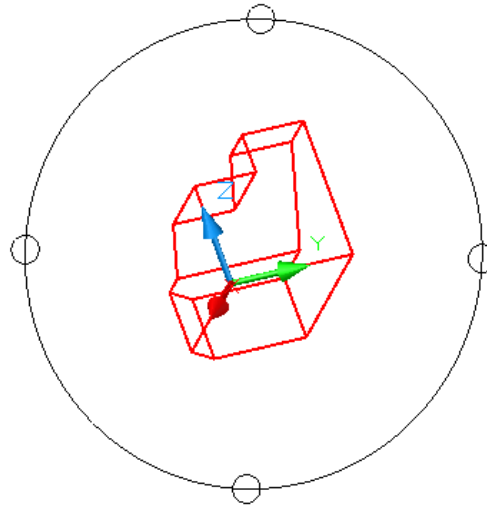

Figure Step 14
Step 14 Using 3DFORBIT, orbit the model to appear similar to the figure. It does not have to match exactly. (Figure Step 14)